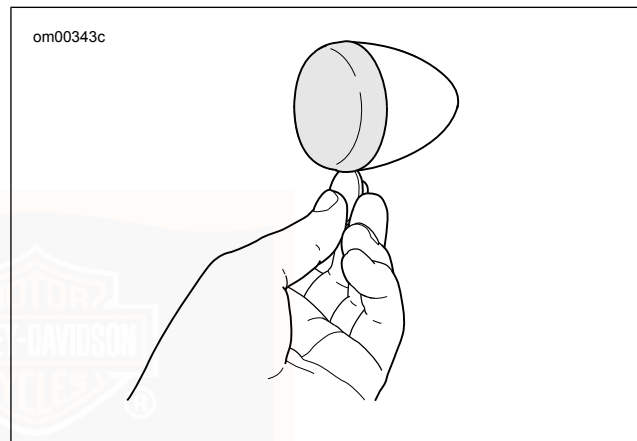

Figure 59. Remove Lens
1. See Figure 59. Insert coin in notch. Carefully twist until the lens cap pops out of the lamp housing.